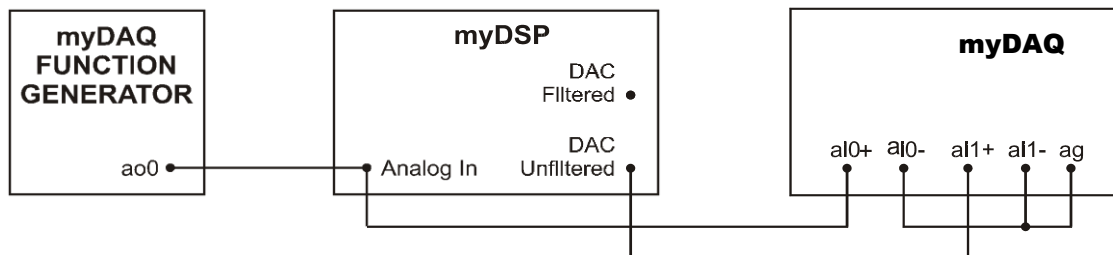
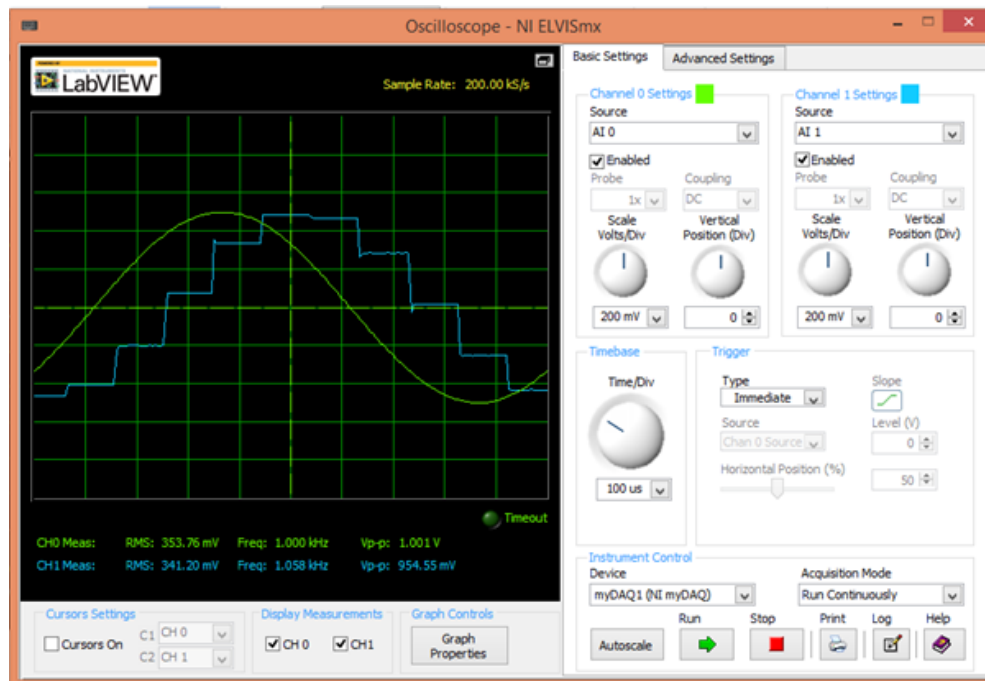

Figure 2: The Basic Connections of myDSP, myDAQ & myDAQ Function Generator
Figure 6: Signal Sampling results at 1 kHz input signal and 10 kHz sampling
4. Patch the connections for myDSP as illustrated in Figure 2.
In this exercise, the sampling of a sine wave can be observed. Configure the myDSP and myDAQ board as shown in Table 1 and Figure 2. Select design mode = Manual Gain Entry mode. Setup the myDSP to implement simple straight through sampling. The settings are shown in the screenshot as shown in Figure 6 below. Click on 'LOAD myDSP' when it is ready. With the structure set to order equal zero, then the input signal will be sampled by the ADC and directly output by the DAC. The settings of oscilloscope and the results are shown in Figure 6.